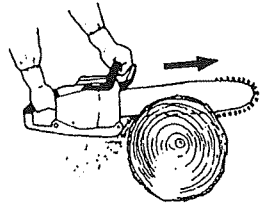

Fig. 20
- Never use the saw with only one hand. You cannot control the saw properly and you may lose control and injure yourself severely. Keep the saw body close to your body to improve control and reduce strain. When cutting with the bottom part of the chain the reactive force will pull the saw away from you towards the wood you are cutting. The saw will control the feeding speed and sawdust will be directed towards you. (Fig. 20)